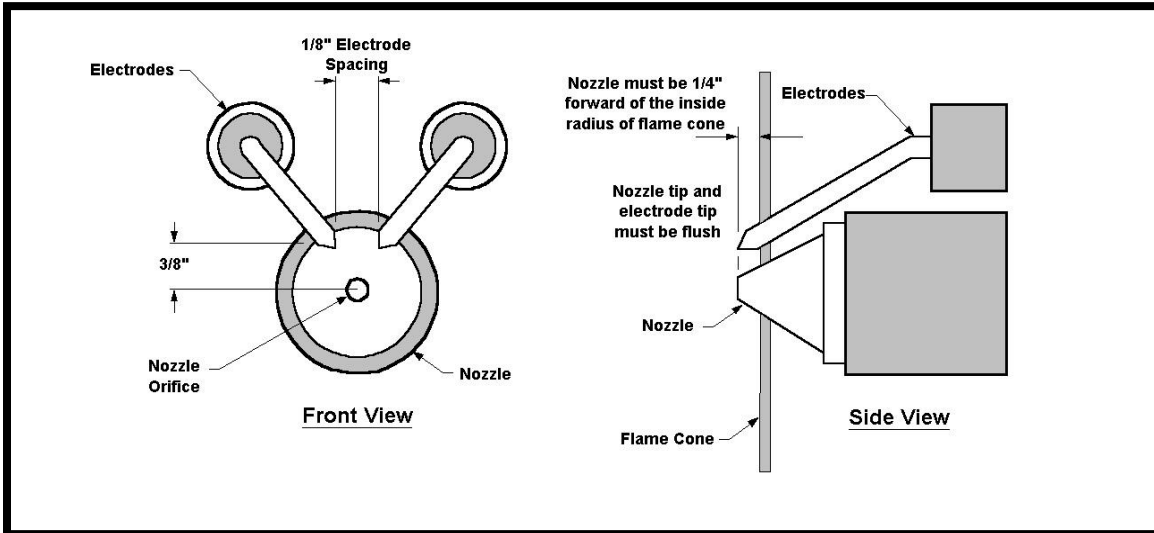

Figure 6 –Electrode Adjustment Diagram
3. **Yearly** Clean Pump Strainer (figure 8) **CAUTION DO NOT DAMAGE GASKET.** Inspect and adjust electrodes per (figure 6). **CAUTION: turn off main electrical power before**
checking or adjusting electrode settings. Inspect and check alignment of nozzle in relation to flame cone/burner tube (figure 6). Tip of nozzle must be $1/4"$ forward of inside radius of flame cone. If nozzle is behind inside radius of flame cone, coking will occur and flame cone can clog. To adjust, loosen Pre-Heater block securing nut and set screw, push fore or aft as needed then retighten securing nut and set screw.